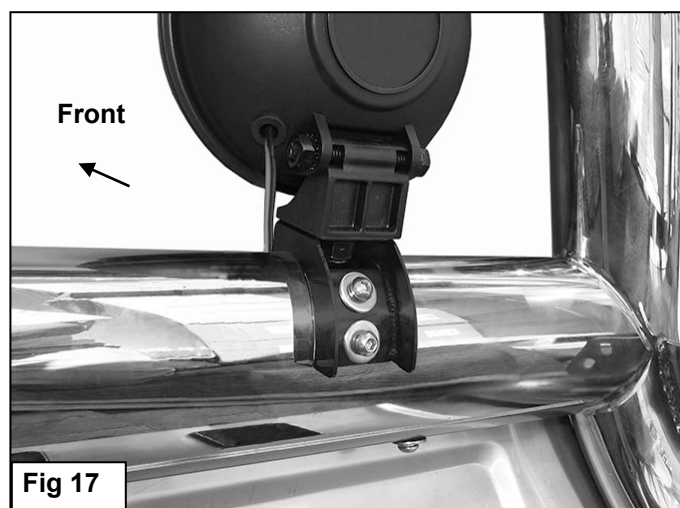

Fig 17
- a) Select (1) Light Mount, (**Figure 16**). Use the hardware included with the light to attach the light to the top of the Light Mount. If light has a separate tilt feature, fully tighten base mounting hardware, (**See example Figure 17**). If light adjusts with the base mounting hardware, skip to **Step 10b**.
- b) Remove the rubber plug on the top of the crossbar. Bolt the light and Light Mount to the back of the Bull Bar with the included (4) 6mm x 20mm Button Head Bolts, (4) 6mm Lock Washers and (4) 6mm Flat Washers, (**Figure 17**). **NOTE:** If light adjusts with the base mounting hardware, hand-tighten the light hardware; do not fully tighten hardware at this time. You may have to install, adjust, remove light with Bracket and readjust a few times to get the light properly adjusted.